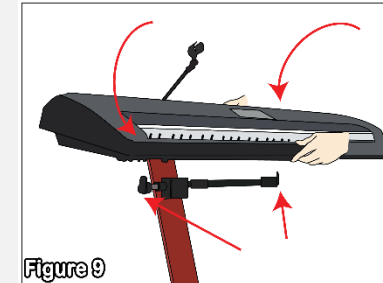

Figure 9
Step 7 – As shown in **Figure 9**, you can now place your equipment on the mounts. These mounts have lips that will secure your equipment from falling and rubber resting pads to keep your equipment from being scratched against the metal mount.